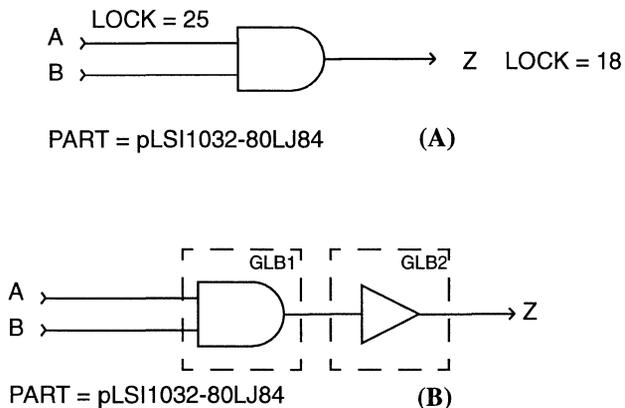

Figure 2-27. (A) Improper Use of the LOCK Attribute
Certain combinations of LOCK attributes may result in a non-optimal design implementation. Figure 2-27 (A) is an example of improper use of the LOCK attribute; a single AND gate is locked to two different megablocks at the input and output sides. In this case, the output Z should be fed through a second GLB before it can connect to an IOC pin locked to a megablock other than that of pin A. Figure 2-29 (B) shows the resulting implementation.